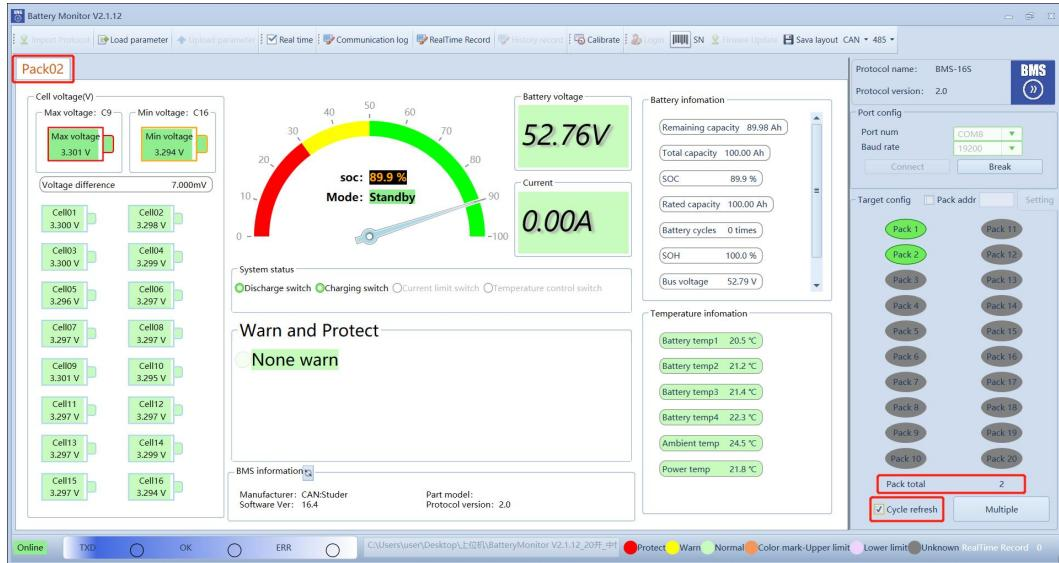

Figure 8-3
- 2) When confirming the number of connected machines, click Connect the upper monitor and select “Cycle Refresh”. The upper monitor can see the number of parallel machines and package the refresh data,Figure 8-3